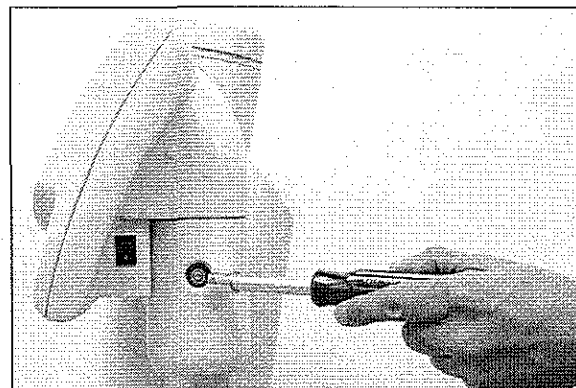

Figure 5-2b: Adjusting Injector Head Pivot
3. Use the 7/16" nut driver to turn the lock nut (see Figure 5-2b). Turn clockwise to tighten or counter-clockwise to loosen. No testing required after tightening.